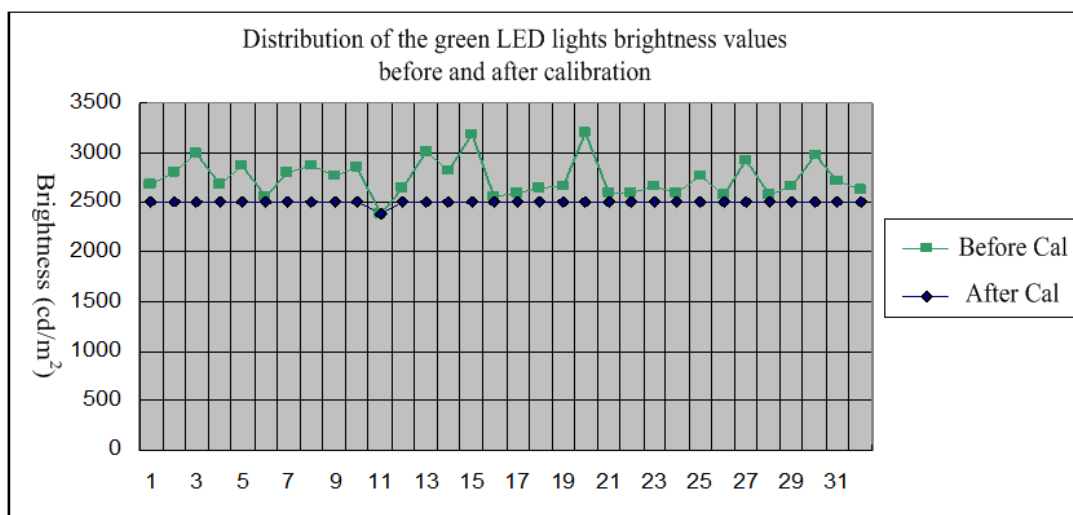

Fig.9-7 Brightness Values Distribution Before and After Calibration
- ✧ **Brightness calibration:** Brightness calibration is to adjust the brightness of LED lights to improve the brightness uniformity. In the brightness calibration, brightness of most lights will be properly lowered. Fig.9-7 shows an example of brightness adjustment of green LED lights, in which there are two brightness distribution curves corresponding to before and after calibration (adjustment) respectively. Before calibration, the brightness values of green LED lights are scattered between 2400 – 3300 cd/m2, but after calibration those are concentrated almost at 2500 cd/m2, representing high brightness uniformity.